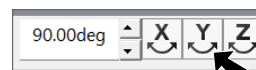

Fig. 4
Step 4. In the Rotate context toolbar click the Y axis  to rotate 90°, Fig. 4